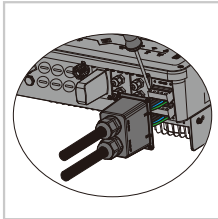

Figure 4.1-2
- **On-Grid & Back-Up Connection:** Confirm ON-GRID connected to power grid and Back-Up to loads: polarity (L1/L2/L3/N) not reversed, refer to Figure 4.1-2.